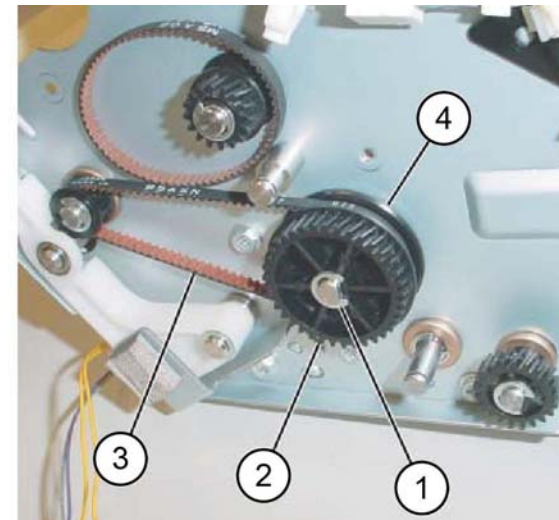

Figure 3 Gear pulley removal
5. Remove the gear pulley, Figure 3:
- a. Remove the E-clip (1).
- b. Remove the gear (2).
- c. Remove the belt (3) from the pulley.
- d. Remove the flange (4).